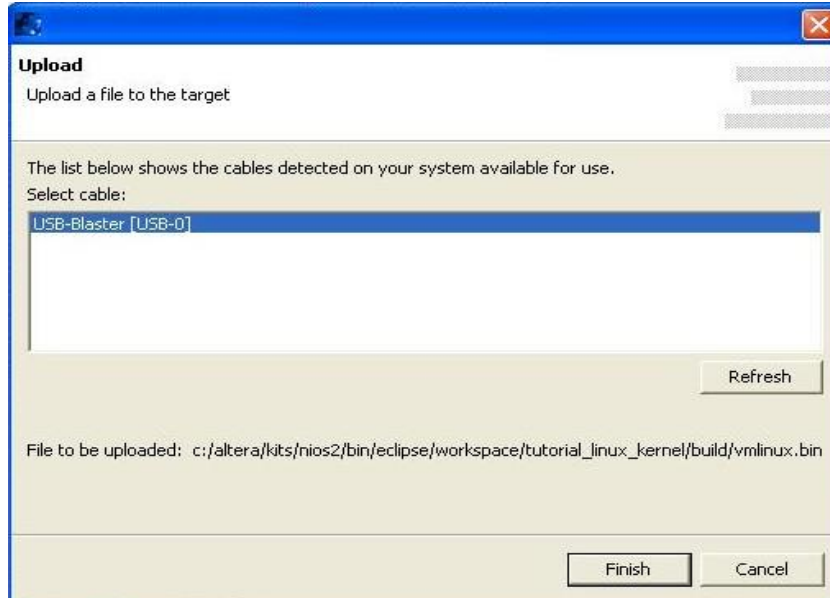

Figure 12: Uploading the Kernel
An upload window will appear as shown in Figure 12.
5. An uploading window will pop up as shown in Figure 12.